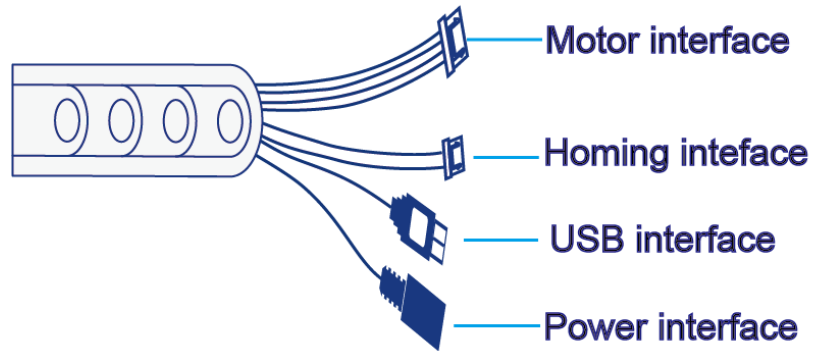

Figure 1.9 Interfaces on the other end of the wire set
Step 6 Connect the interfaces on the other end of the wire set to the power adaptor, USB interface of PC, motor interface and homing interface of the sliding rail respectively. Figure 1.9 shows the interfaces on the other end of the wire set.